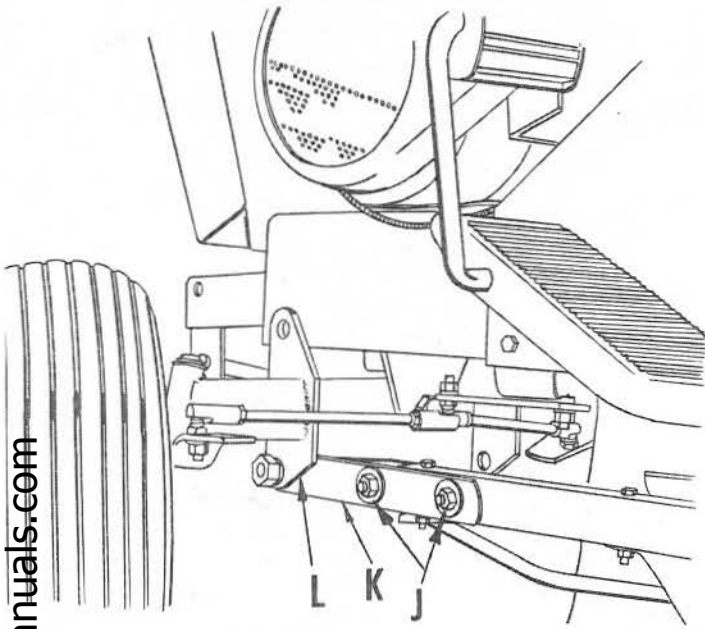

FIG. 4
5. Loosen nuts (J), in front frame strap weldment (K), and frame weldment as shown in Fig. 4. Raise frame strap weldment up so that it can be attached to L.H. front axle bracket (L). Assemble flat washer over bolt, then add bushing. Insert bolt, washer and bushing through front frame strap then through L.H. front axle bracket as shown in Fig. 4, and assemble lock washer and hex nut. Leave nut loose.